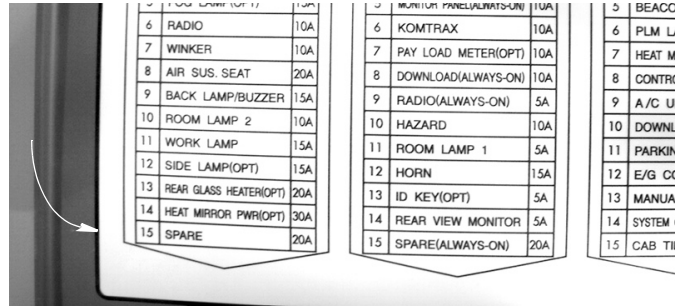

FIG. 84
- In the fuse box locate the fuse labeled "SPARE" (FIG. 84).